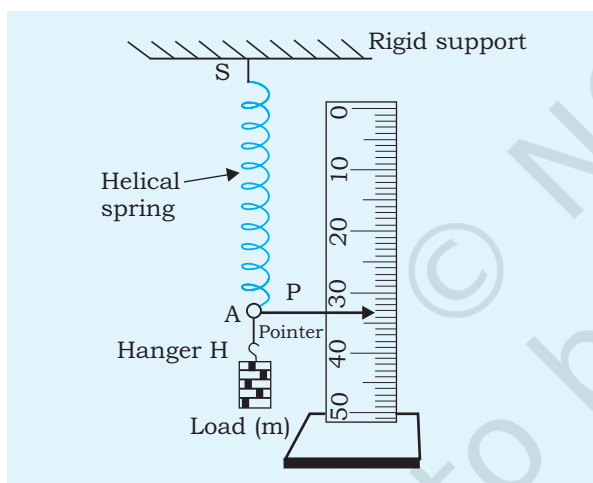

Fig. P 9.1: Measurement of extension of a helical spring due to a load
1. Suspend the helical spring, SA, having a pointer, P, at its lower free end, A, freely from a rigid point support, as shown in Fig. P 9.1.